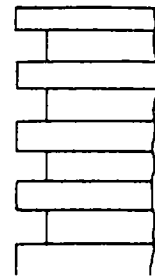

Figure 6-6. 3rd Stage Cylinder and Piston, Repair.
- (6) Remove four studs (11) from crankcase (4).
- (7) Install four studs (11) on crankcase (4).
- (8) Position guide piston (9) over connecting rod (10) and insert piston pin (7).
- (9) Using circlip pliers, install two circlips (8).
- (10) Position preformed packing (5) on crankcase (4).
- (11) Lubricate cylinder wall with oil.
- (12) Insert cylinder (3) down over floating piston (6) using piston ring clamp.
- (13) Insert cylinder (3) and floating piston (6) onto guide piston (9).
- (14) Position cylinder (3) down until it seats on preformed packing (5) on upper crankcase (4).
- (15) Install four washers (2) and nuts (1).
b. Repair. (figure 6-6)